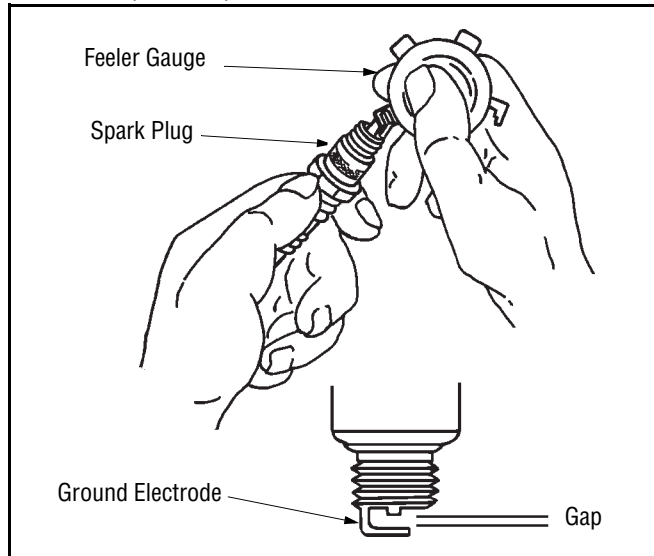

Figure 14
- Check the gap using a feeler gauge and adjust, if necessary, by carefully bending the ground electrode. See Figure 14. Set the spark plug gap to 0.030 (.76 mm).